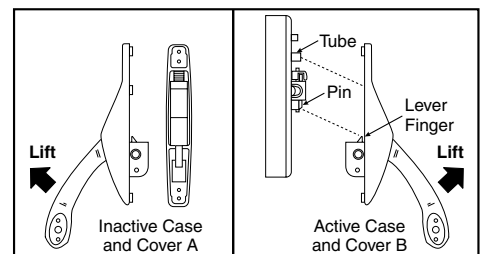

Figure 17
4. Reassemble covers and cases. (Figure 17)